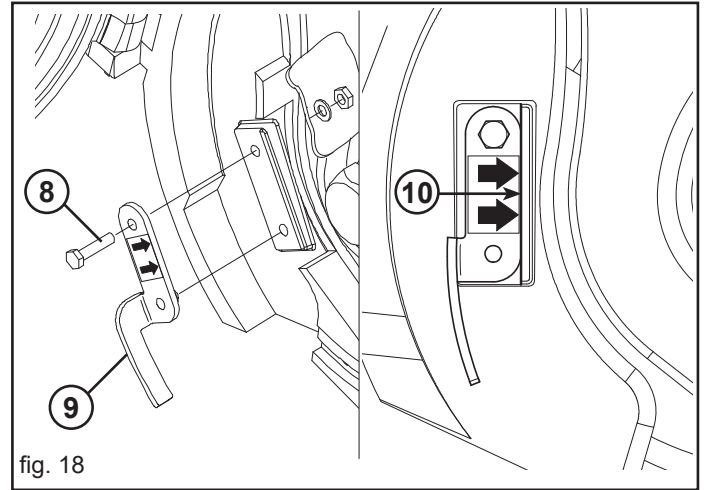

fig. 18
Loosen the screws (8, Fig. 18) and remove the expeller (9).
Position the expeller (9) as shown in Figure 18.
keeping the expeller pressed against the edge, obtained in the relative seat (10, Fig. 18), block it by the screw (8) kit. The screw is to be mounted only as shown in the picture. Do not interpose any thickness between the expeller and its seat.